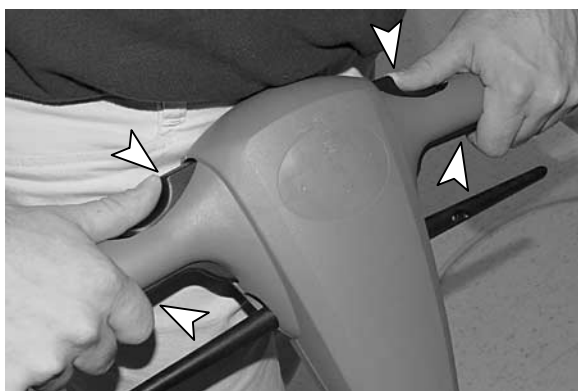

FIG. 12
5. To begin scrubbing, hold the handles firmly, depress the safety lock levers and pull the On/Off levers. Release safety lock lever once machine starts (Figure 12).